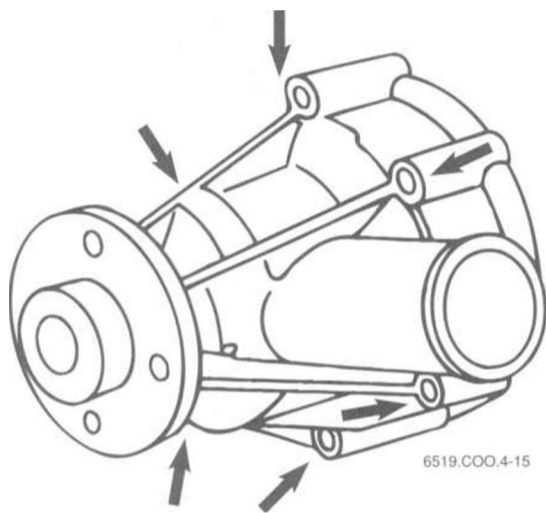

Fig. 11. M30 engine coolant pump. Mounting bolts shown at arrows
7. Remove six coolant pump mounting bolts and remove pump. See Fig. 11.